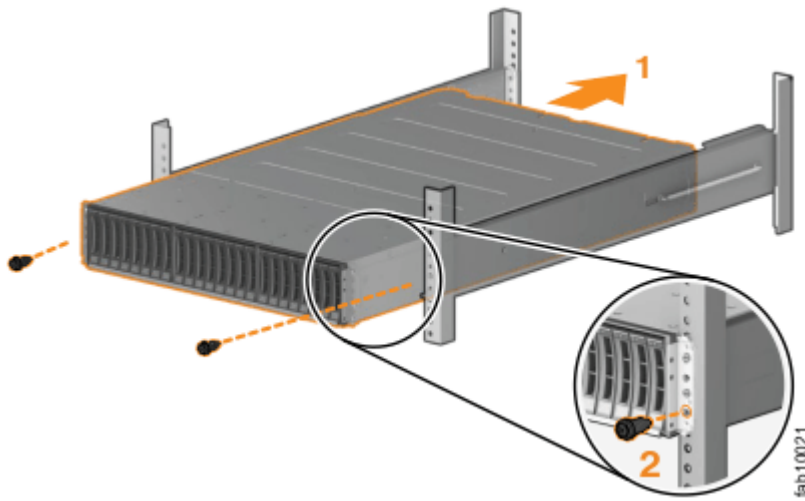
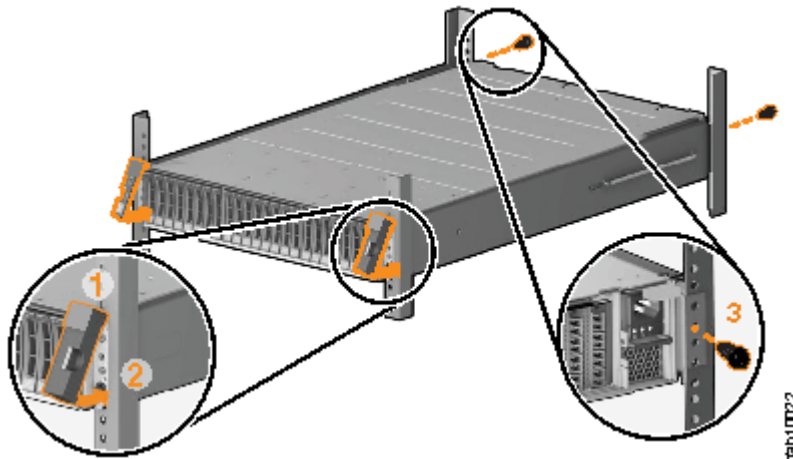

Figure 22. Inserting the enclosure
Figure 23. Reinstalling enclosure end caps
3. Carefully slide the enclosure into the rack along the rails until the enclosure is fully inserted. See Figure 22 on page 23.
(See Figure 22 on page 23 and Figure 23 on page 23.)
See Figure 23 on page 23. The left end cap has indicator windows that align with the status LEDs (light-emitting diodes) on the edge of the enclosure.